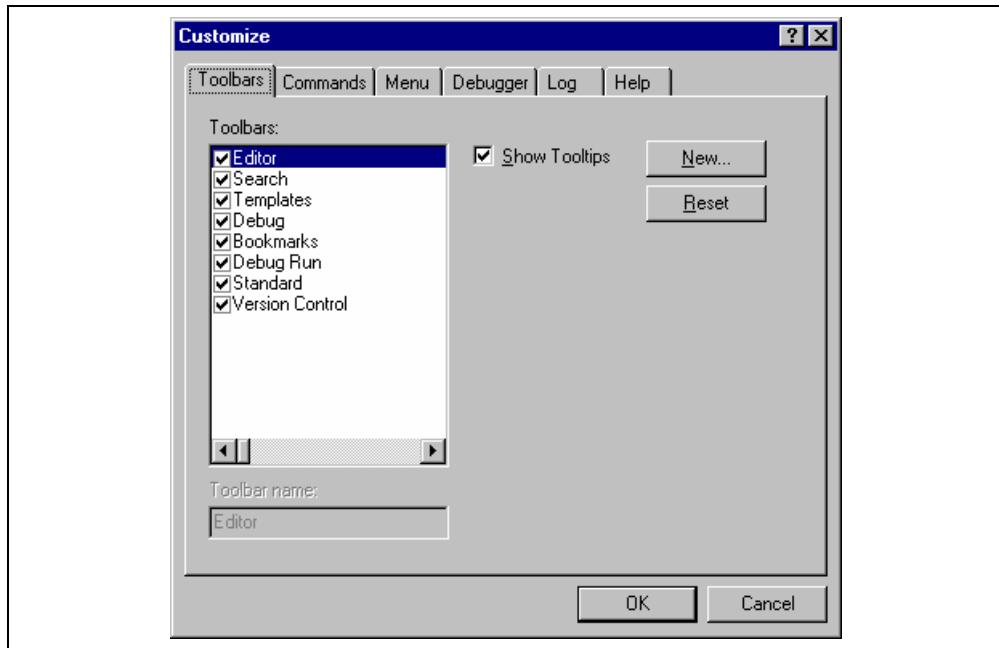
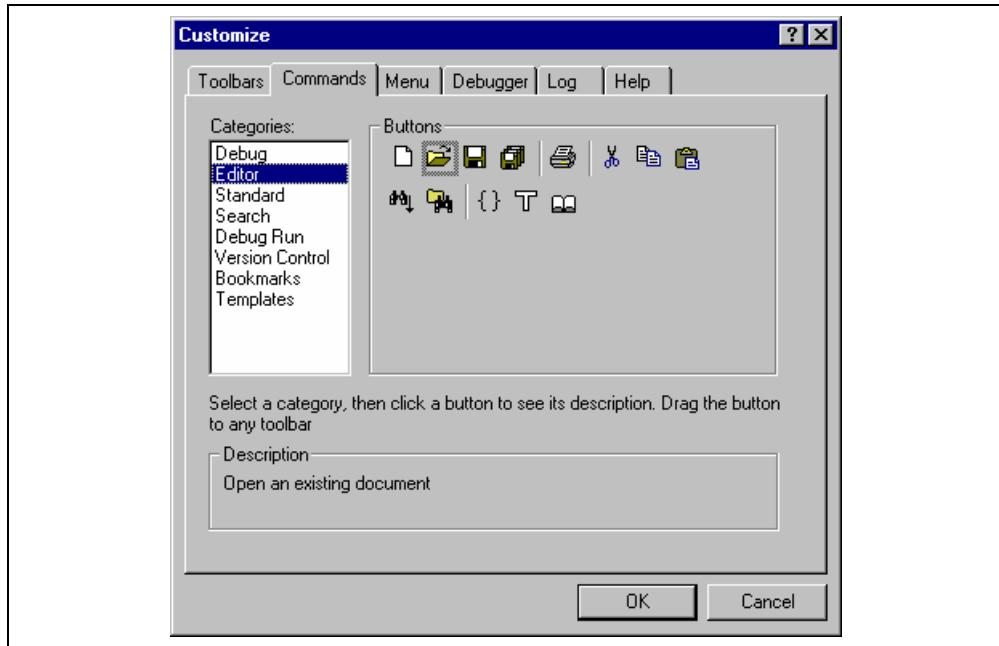
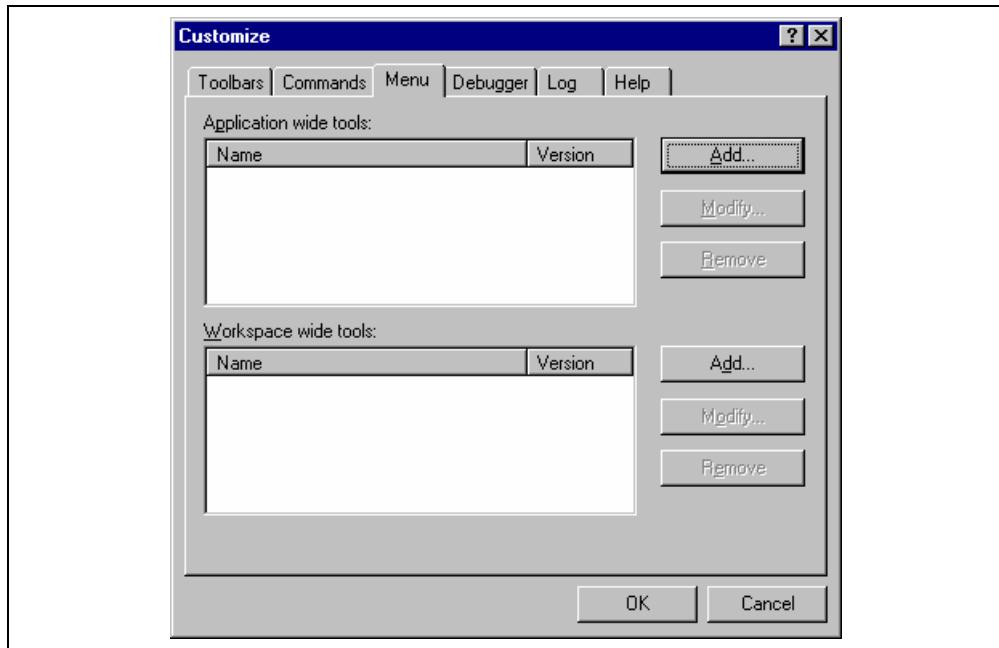
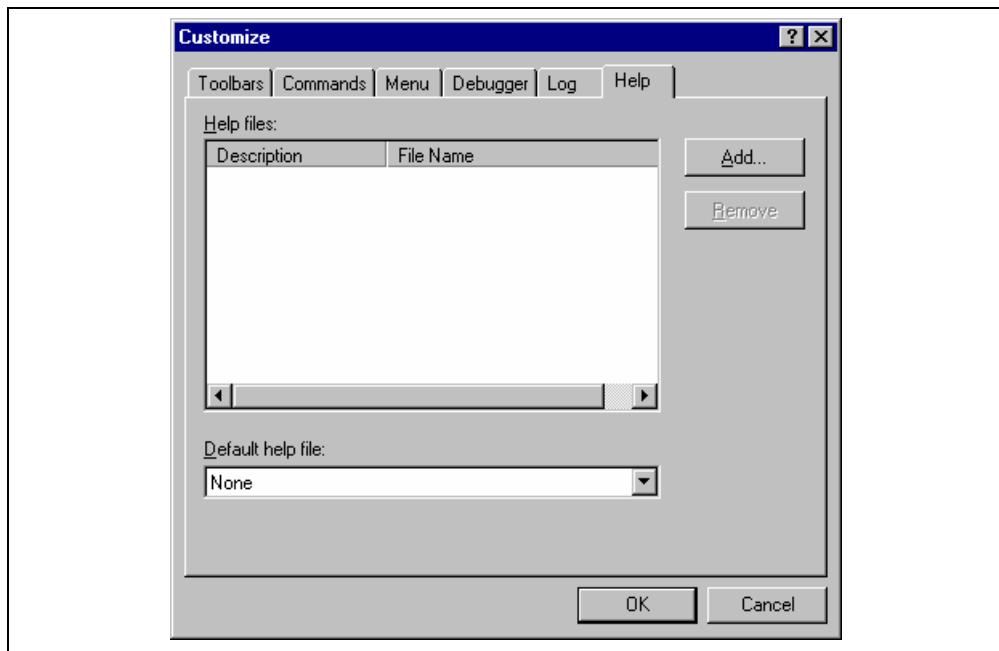

Figure 6.1: Customize Dialog Toolbars Tab
Figure 6.3: Customize Dialog Commands Tab
Figure 6.4: Customize Dialog Menu Tab
Figure 6.7: Customize Dialog Help Tab
The High-performance Embedded Workshop provides 2 standard toolbars as detailed in chapter 1, “Overview”. In addition to these, you may also construct your own toolbars via the “Customize” dialog (figure 6.1).
- Select [Tools->Customize...]. The dialog shown in figure 6.1 will be displayed.
1. Select [Tools->Customize...]. The dialog shown in figure 6.1 will be displayed. Select the “Commands” tab (see figure 6.3).
1. Select [**Tools->Customize...**]. The dialog shown in figure 6.1 will be displayed. Select the “Commands” tab (see figure 6.3).
1. Select [**Tools->Customize...**]. The dialog shown in figure 6.1 will be displayed.
2. Select the user-defined toolbar from the “Toolbars” list, and the “Reset” button in figure 6.1 changes to the “Delete” button. Then click the “Delete” button.
1. Select [Tools->Customize...]. The dialog shown in figure 6.1 will be displayed. Select the “Menu” tab (see figure 6.4). The first thing for you to decide is whether you are adding a global application wide tool (“Application wide tools:”), which will be available to all of your workspaces. Or whether you wish to add a workspace wide tool (“Workspace wide tool:”), which is only valid for the current workspace. Once you have made the choice choose the relevant section of the dialog.
1. Select [Tools->Customize...]. The dialog shown in figure 6.1 will be displayed. Select the “Menu” tab (see figure 6.4).
1. Select **[Tools->Customize...]**. The dialog shown in figure 6.1 will be displayed. Select the “Help” tab (see figure 6.7).